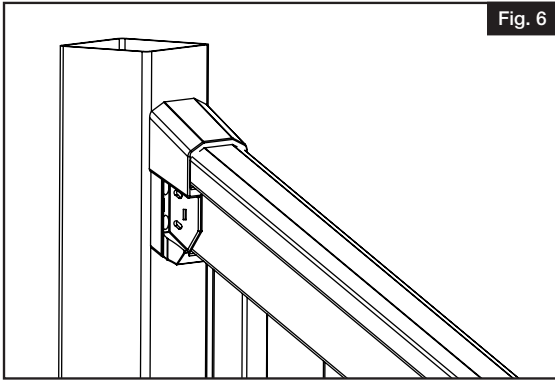
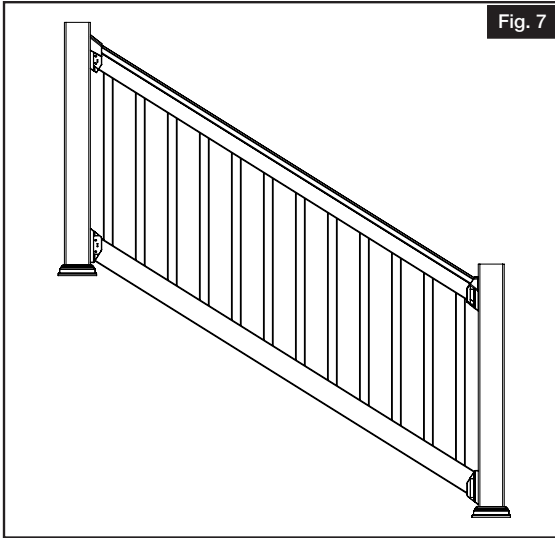

Fig. 6
Fig. 7
- 6** Slide the stair brackets onto the rails (Fig. 6) and place rail section between your posts (Fig. 7).